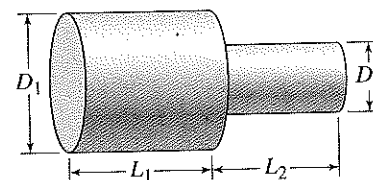

Figure P7.46
- 7.46 The copper shaft shown in Figure P7.46 consists of two cylinders with the following dimensions:  $L_1 = 10 \text{ mm}$ ,  $L_2 = 5 \text{ mm}$ ,  $D_1 = 2 \text{ mm}$ , and  $D_2 = 1.5 \text{ mm}$ . The shaft is insulated around its circumference so that heat transfer occurs only in the axial direction. (a) Compute the thermal resistance of each section of the shaft and of the total shaft. Use the following value for the conductivity of copper:  $k = 400 \text{ W/m} \cdot ^\circ\text{C}$ . (b) Compute the heat flow rate in the axial direction if the temperature difference across the endpoints of the shaft is  $30^\circ\text{C}$ .